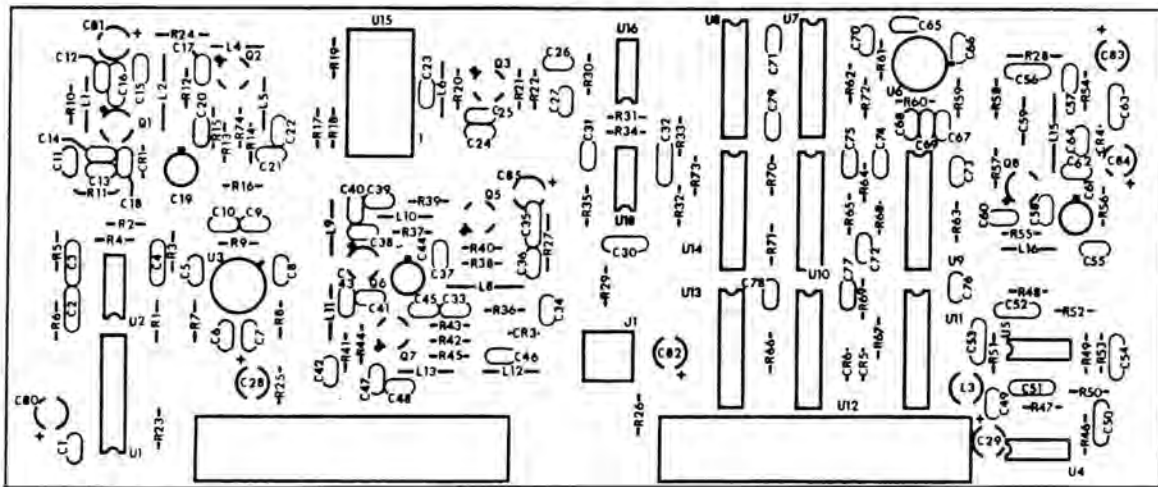

Figure 1-4. Type 796107, 2nd LO Synthesizer (A5A3)
1.8.1 The following components have been changed to upgrade the performance of this module. Refer to **Figure 1-4** for the new Location of Components.